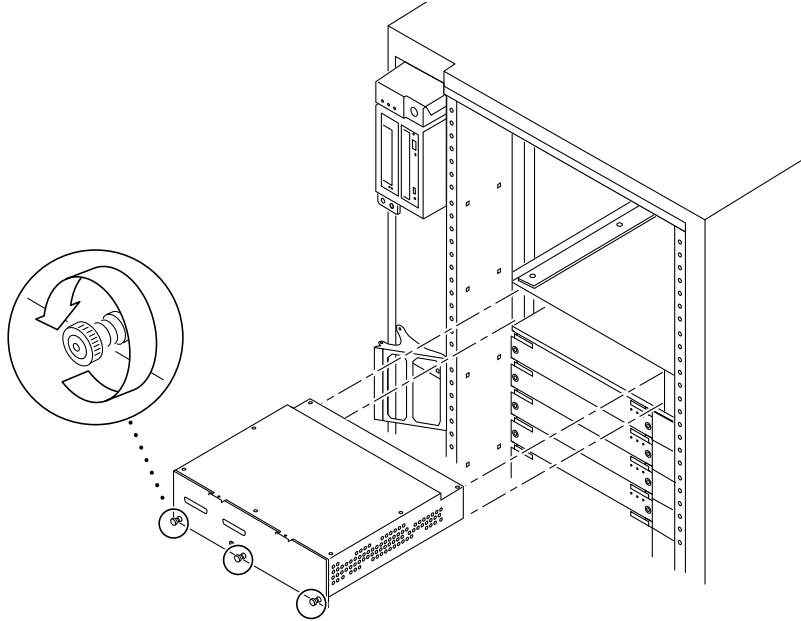

FIGURE E-13 Removing the SCSI Tape Adapter PCS Assembly in the Enterprise 6500/5500 Systems
- 3. Loosen the three captive screws on the bottom that secure the SCSI adapter assembly to the cabinet (FIGURE E-13).**
- 2. Tighten the three captive screws on the bottom that secure the SCSI adapter assembly to the cabinet (FIGURE E-13).**